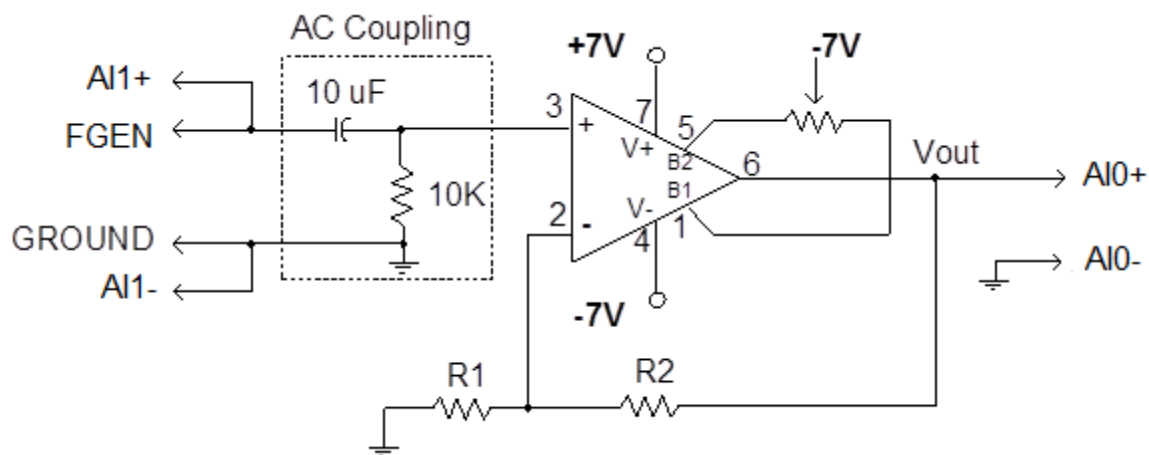

Fig. 7. Non inverting amplifier with AC coupled input and offset compensation resistor
1. The non-inverting amplifier designed in the pre lab (as shown in Fig. 5) will be used to understand the finite GBW limitation of the Opamps. Since the gain of the non-inverting amplifier is very large (around 61 or 35 dB), very small DC offsets in the amplifier will produce large DC output offset voltage. Hence we will use offset calibration scheme (used earlier in Lab 3, Fig. 6) to calibrate the Opamp offsets. So, connect the circuit as shown in Fig. 7.
2. You would also notice that we have used AC coupling from the NI Elvis signal source to the Opamp input in Fig. 7. This eliminates the DC offsets coming from the signal source and only the AC voltage swing generated by the signal generator (from Elvis) will be applied to the Opamp input terminal. The ac coupling circuit behaves like a high pass circuit with a corner frequency of around 1.6 Hz and will be transparent for higher frequency (> 1.6 Hz) operation. The potentiometer (20k) as shown in Fig. 7 between terminals 1 and 5 is for offset calibration. Make sure the wiper of the potentiometer is connected to -7V supply. We will use this potentiometer to trim the offsets coming from the Opamp.